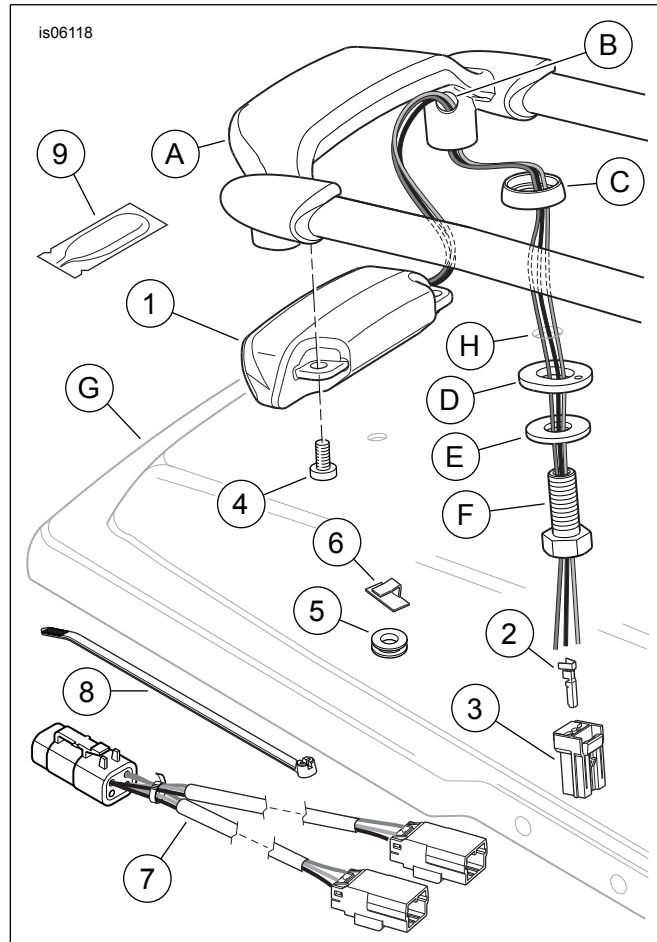

Figure 3. Service Parts, Air Wing Saddlebag Lid Rail Light Kits
See Figure 3 and Table 1.
2. **ALL installations:** See Figure 3. Obtain a saddlebag rail light assembly (1) from the kit.
3. Insert the light wires through the hole (B) in the side of the saddlebag rail (A) mounting post, and out through the bottom of the post.
4. Install the light to the underside of the saddlebag rail rear cross bar with two screws (4) from the kit. Tighten the screws >securely.
5. Insert the light wires through the left rear saddlebag rail mounting pad (C) and the left rear hole (H) in the saddlebag lid (G). Assemble the saddlebag rail to the lid per the instructions in the Air Wing Saddlebag Rail Kit, feeding the wires through the left rear saddlebag rail nylon washer (D), plain washer (E) and the hex head hollow screw (F). Tighten the two **Phillips head** screws to 3.1–3.5 N·m (27–31 **in-lbs**). Tighten the hex head **hollow** screw to 3.4–5.6 N·m (30–50 **in-lbs**).
2. See Figure 3. Obtain six socket terminals (2) and two socket housings (3) from the kit. Refer to the service manual and follow the instructions to crimp the terminals onto the saddlebag rail light wires.